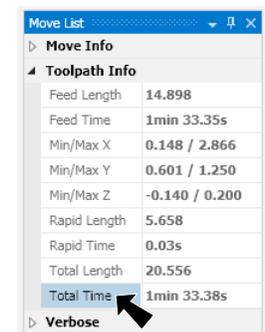

Fig. 24
Step 5. Note **Total Time** to run program under Toolpath Info in the Move List panel (**1min 33.38s**), **Fig. 24**.